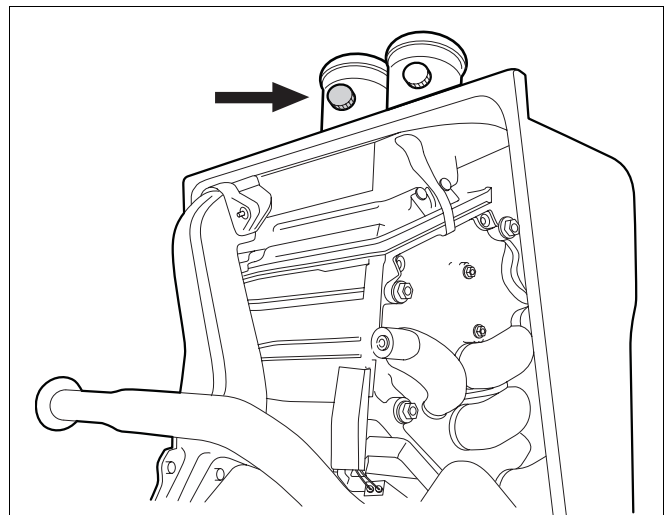

Fig. 38 Flue gas sampling point
9.10 Measuring the carbon monoxide content (CO)
- Measure the carbon monoxide content on the flue gas sampling point (fig. 38).